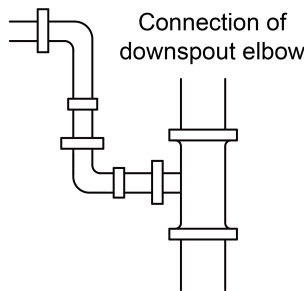

Fig 4.14
- ② : Connection of downspout elbow (Fig 4.14)